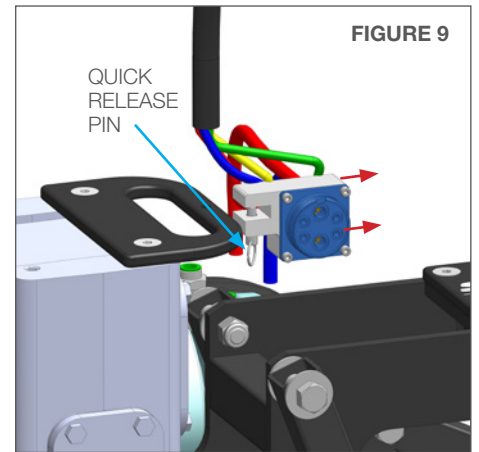

FIGURE 9
- Pull out the quick release pin on the QD Hanger and slide the assembly off the Gearbox handle. **(Figure 9)**